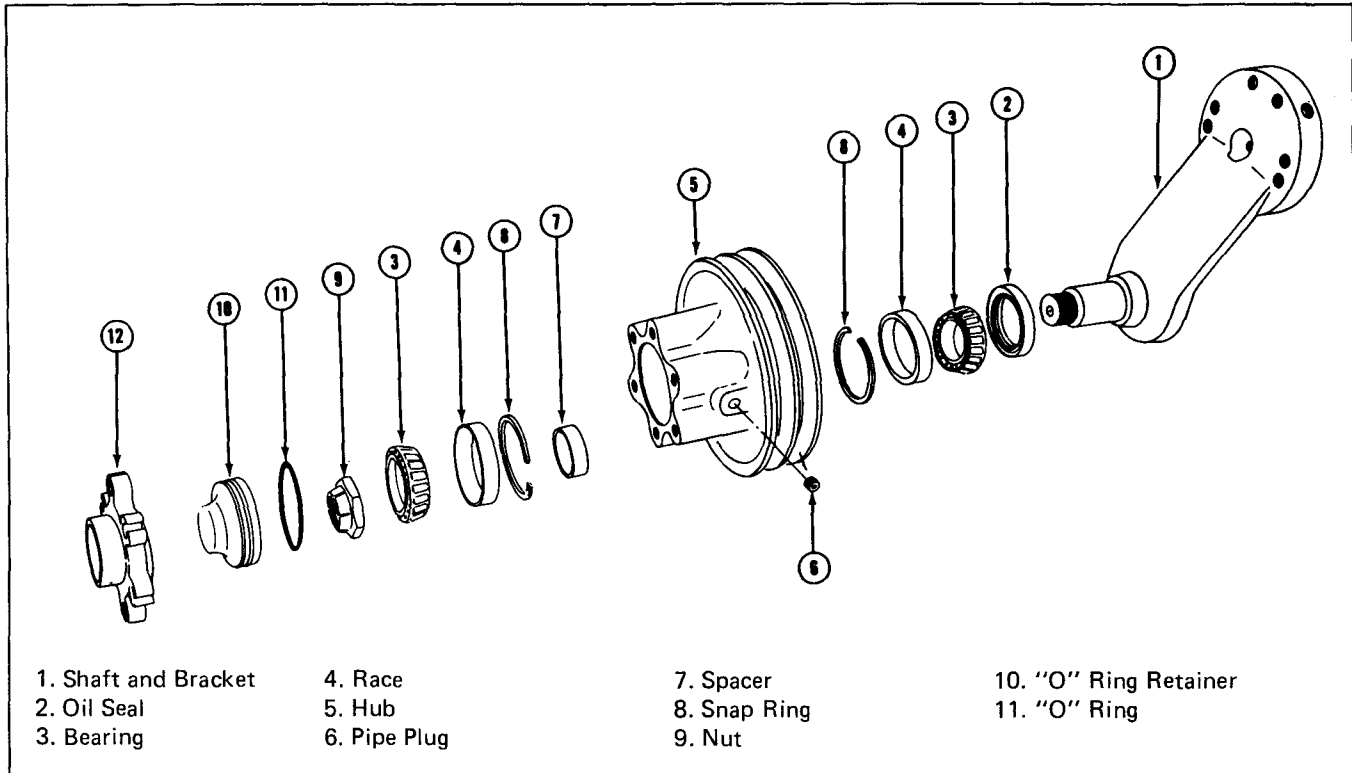

Fig. 8-22, (N10839). Fan hub assembly with tapered roller bearing and spacer
1. Remove pipe plugs (6, Fig. 8-22).
2. Remove spacer (12), "O" ring retainer (10), locknut (9) and washer (if used).
3. Remove pulley (5) from shaft, remove front bearing (3) and spacer (7) from pulley.
4. Remove seal (2) and rear bearing (3), discard seal.